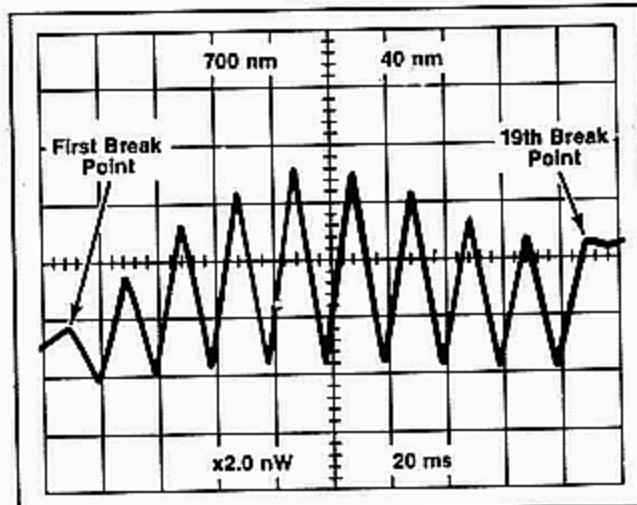

Fig. 5. Spectrometer display with RSS External Normalizer operating.
a. Place the tungsten incandescent lamp in front of the Spectrometer entrance slit. Position the lamp to obtain a spectrometer display approximately 4 divisions in amplitude. See Fig. 5.
c. CHECK - Spectrometer display to see that the first break point is 0.5 division, -0.1 division to the right of the left edge of the crt graticule. See Fig. 5
0.1 division of horizontal deflection between the first break point and the nineteenth break point. See Fig. 5.